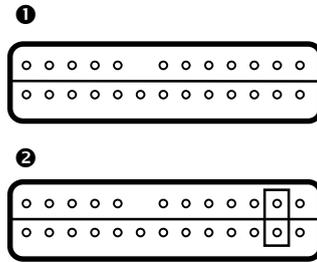

Figure 3-4 Jumper Settings for TRM PWR
2. Place jumper in the positions shown in Figure 3-4, number ❷